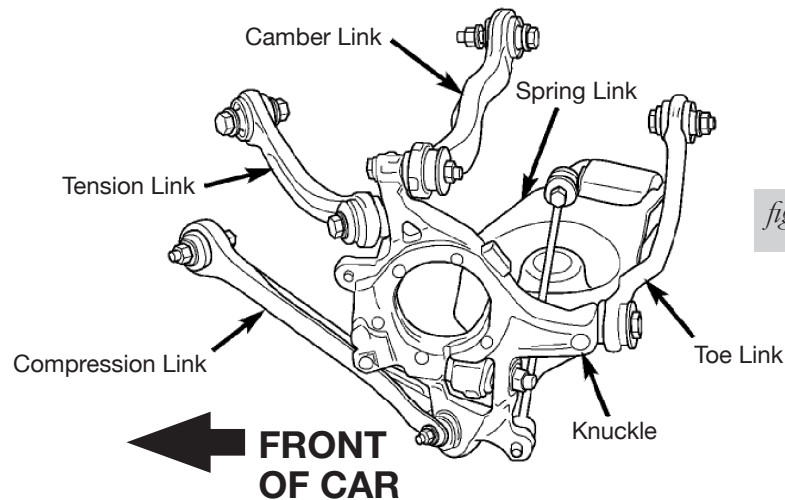

fig. 7
6. Insert 1/4" spacer between the toe link and knuckle. Unthread toe link bolt and install spacer and bolt. Do not tighten at this point (fig. 7). Read "Aligning the Vehicle."
2. If the ride height is lower than stock, Air Lift Performance recommends loosening all pivot points (bolts, nuts) on any control arm, strut arm or radius rod that contains bushings (fig. 7). Once they have been loosened, re-torque to stock specifications (Table 1).